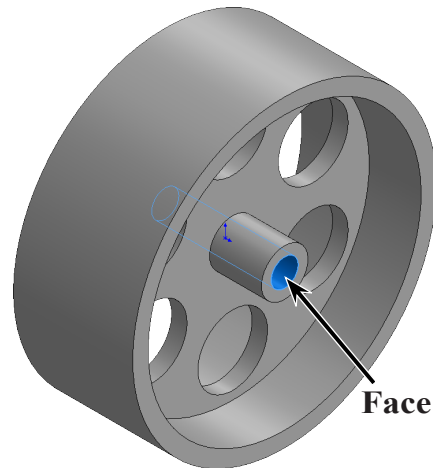

Fig. 21
Step 1. Click the **inside cylindrical face of axle hole** to select it, **Fig. 21**.